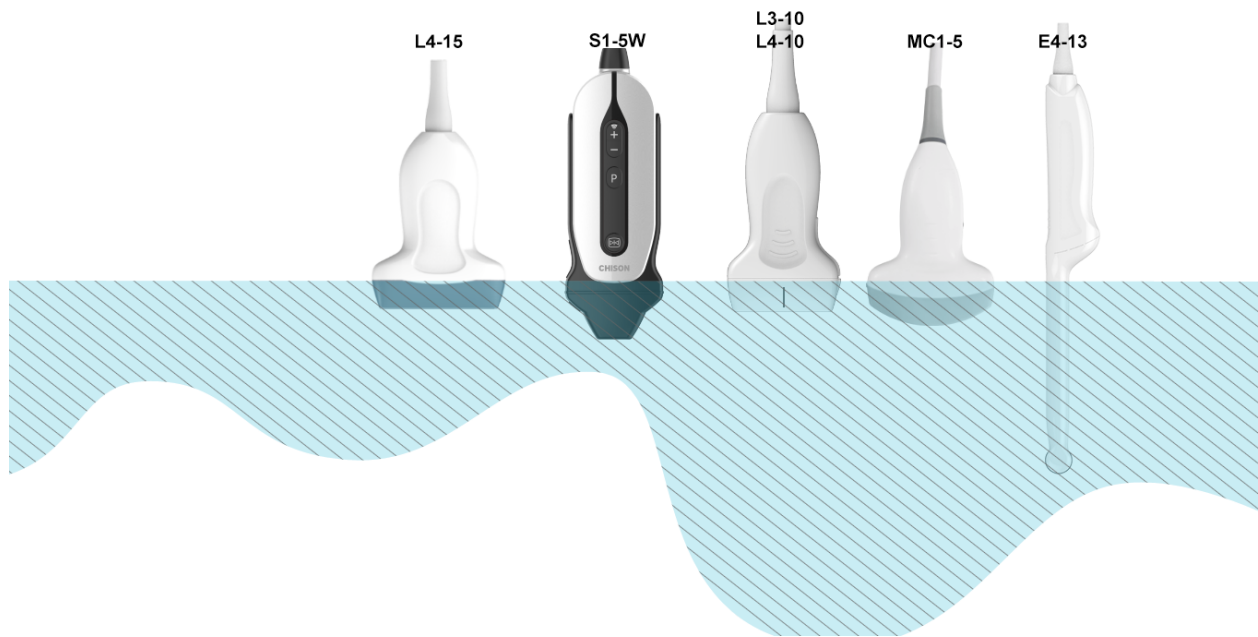

Fig.8-2: Probe Immersion Levels
2. Prepare Cidex® OPA high-level disinfection solution for use per the manufacturer's instructions. Fill a tray or basin with the disinfectant solution at room temperature to a level allowing immersion of the probe up to the immersion line (As shown Fig.8-2).